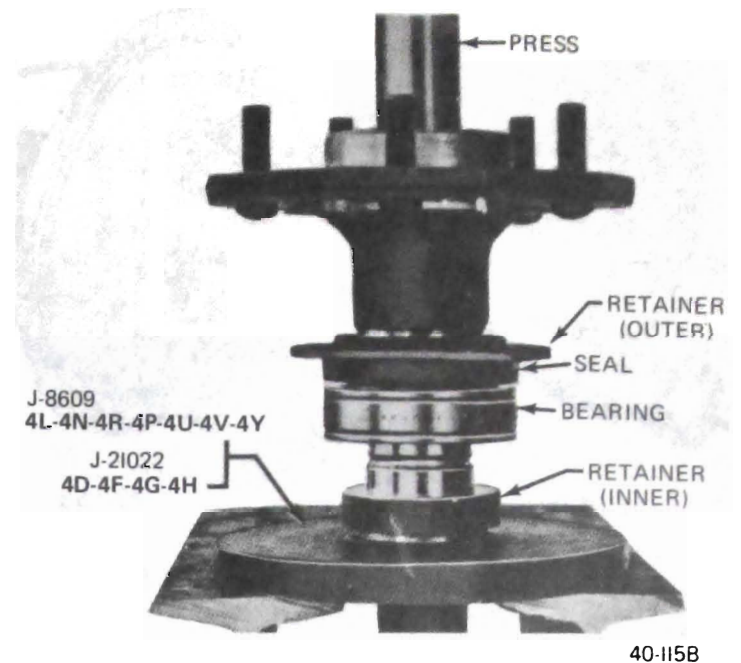

Figure 40-115 Pressing New Retainer Ring Against Bearing
5. Press new service retainer ring against bearing, using Installer J-21022 for 4D-4F-4G-4H and Installer J-8609 for 4L-4N-4R-4P-4U-4V-4Y. See Figure 40-115.